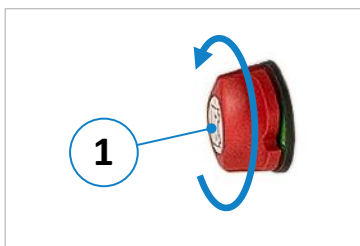

Figure 21: Securing the main switch
- Turn the main switch handle counterclockwise ↺ to the "OFF" position (see ⇒ Figure 21).